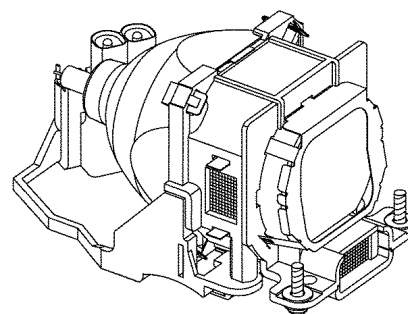

Fig. 3
- Because the high pressure lamp involves a risk of explosion, never touch the lamp wire lead during the service. (See Fig. 3)